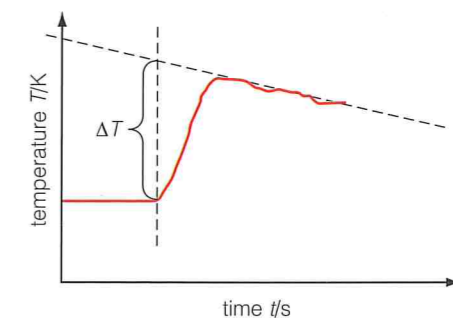

Figure 4.6 Graph showing how to calculate the temperature change.
- 2 A calorimetric technique is used to determine the temperature change of the block. The cooling part of the graph is used to take into account the heat still present in the electric heater when it was turned off but had not transferred into the block. A sketch of how to use this technique is shown in Figure 4.6.